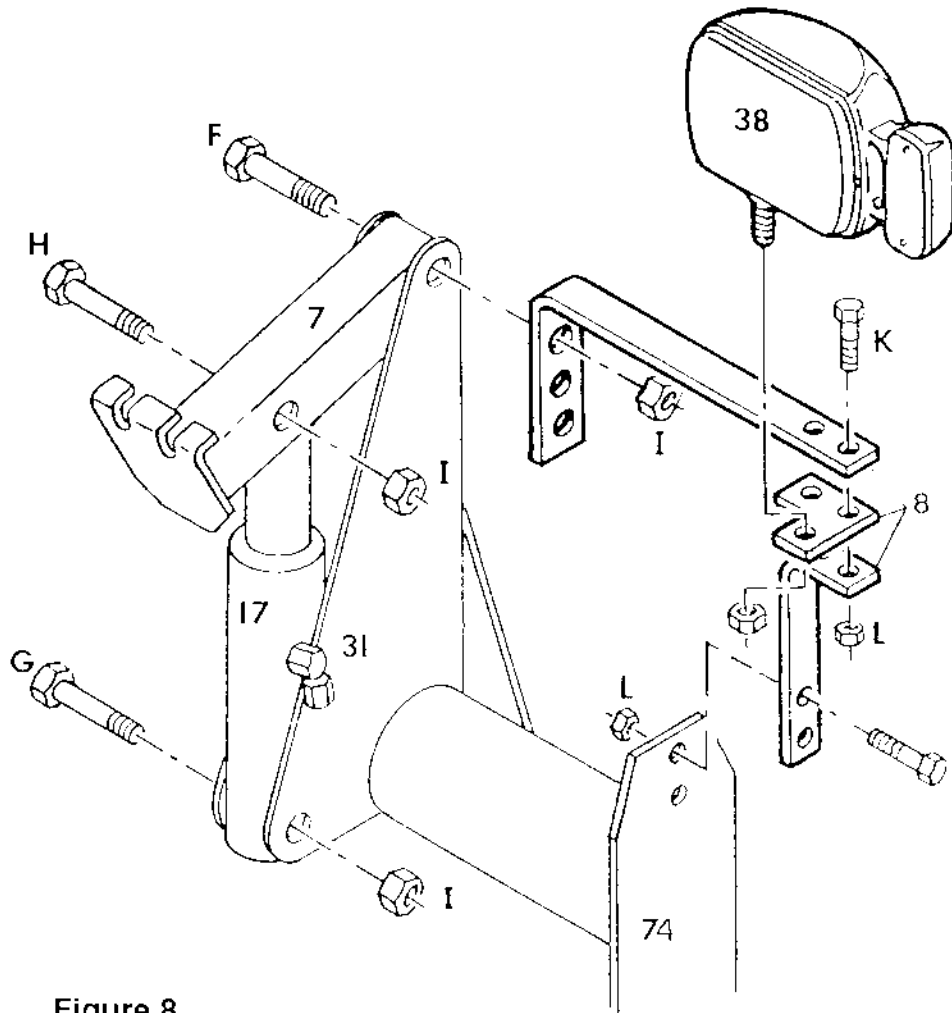

Figure 8
1. Install the AUXILIARY LIGHT BRACKETS (Ref. No. 8, Fig. 8) to the LIFT TOWER as shown in Figure 8 using the hex head bolts and nuts provided.
2. Install LIFT ARM (Ref. No. 7, Fig. 8) to the top of the LIFT TOWER ASSEMBLY using the 5/8" x 4-1/2" HEX HEAD BOLT (Ref. No. F, Fig. 8) and 5/8" SELF LOCKING NUT (Ref. No. I, Fig. 8) provided.
3. Position the LIFT CYLINDER (Ref. No. 17, Fig. 8) in its respective position on the LIFT TOWER and fasten by using the 5/8" x 4" HEX HEAD BOLT (Ref. No. G, Fig. 8) and 5/8" SELF LOCKING NUT (Ref. No. I, Fig. 8) provided. Install the 90 DEGREE SWIVEL FITTING (Ref. No. 31, Fig. 8). Fasten the rod end of the cylinder to the LIFT ARM using the 5/8" x 3-1/2" HEX HEAD BOLT (Ref. No. H, Fig. 8) and 5/8" SELF LOCKING NUT (Ref. No. I, Fig. 8) provided.
4. Mount the AUXILIARY HEADLIGHTS (Ref. No. 38, Fig. 8) to the AUXILIARY LIGHT BRACKETS as shown in Figure 8. Do not tighten the AUXILIARY HEADLIGHT mounting nut as the positioning of the lights will have to be adjusted once the wiring has been completed.